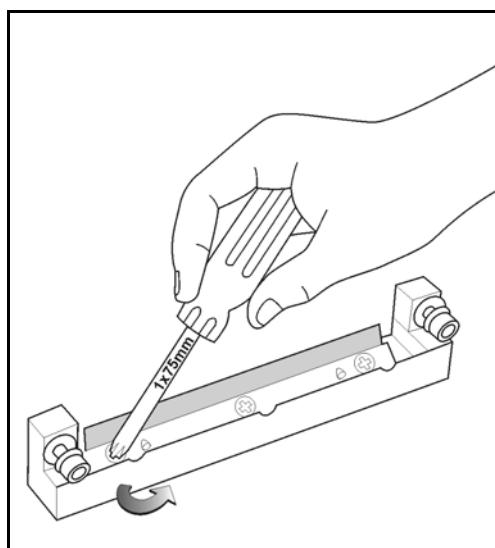

Figure 6-33: Removing the roller scraper screws
- From the *Options* menu of the printer interface (see figure 6-33 on page 6-27), select **Wizards > UV Lamp Replacement**.